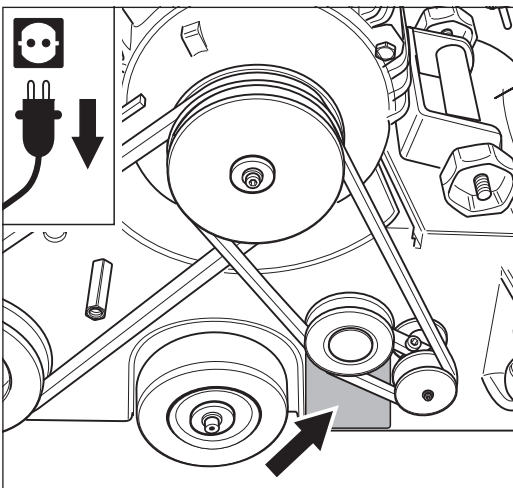

Fig. 2 Machine type plate on machine housing.
- 4 The machine type plate is located on the machine housing below the belt tensioner (fig. 2).